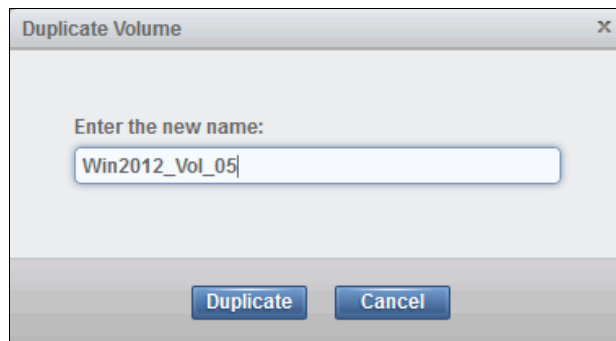

Figure 8-46 Create a duplicate volume
2. Enter a name for the duplicate volume and click **Duplicate** to apply the change, as shown in Figure 8-46.